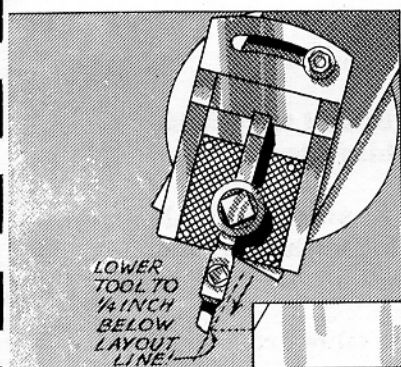

FIG. 415
8. Raise or lower the work and the table until the cutting edge of the tool is slightly lower than the bottom edge of the indicated angular cut (Fig. 415).